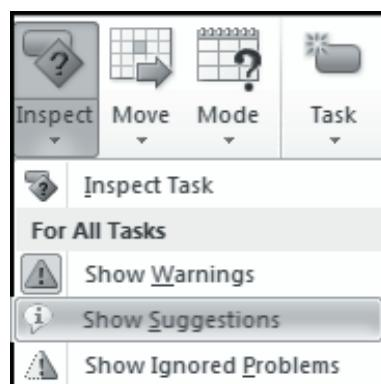

Figure 10.14: List Items in Inspect Button of the Ribbon
1. Click the drop-down arrow on the **Inspect** button in the **Tasks** group of the **Task** tab and select **Show Suggestions** as shown in figure 10.14.